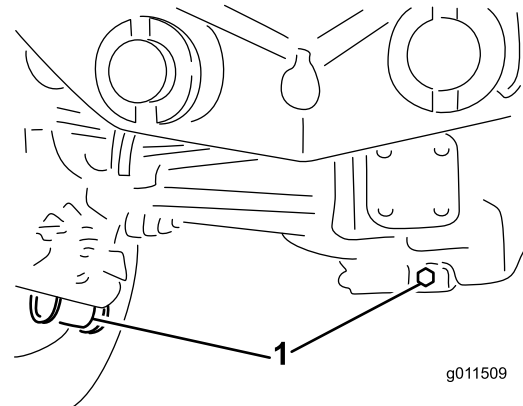

Figure 90
2. Clean the area around the 3 drain plugs; 1 on each end and 1 in the center (Figure 90).